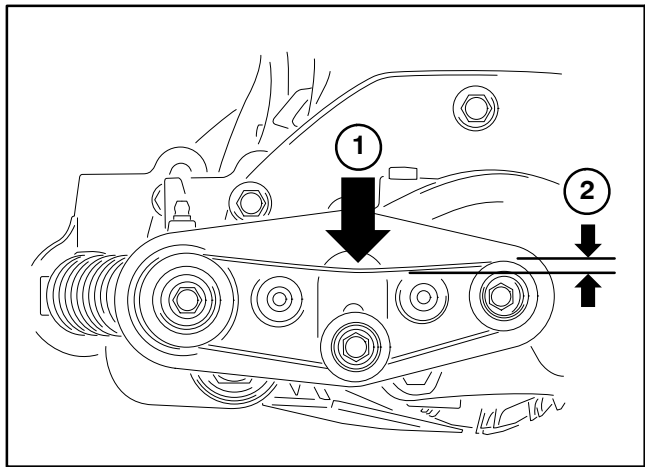

Figure 44
- 5. To install brush drive belt (item 2):
- A. Make sure that idler pulley (item 6) is loose on drive plate.
- A. Push down on the idler pulley and secure with cap screw (item 22) and flange nut (item 8). Make sure that cover plate (item 7) is covering the slot in the drive plate to prevent debris from entering the brush drive area.
- B. After idler pulley is secured, check that drive belt has approximately 1/4" (6 mm) deflection at the center of the belt with 2 lb (1 kg) of force applied to the belt (Fig. 44).